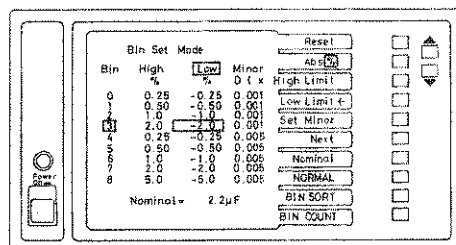

Fig. 5.7 A typical Bin Set display
- 4 Press High Limit. To select a particular Bin number, use the ▲ and ▼ keys. The Bin number in use is shown boxed on the main display. A typical display for setting limits in % Binning is shown in Fig. 5.7.